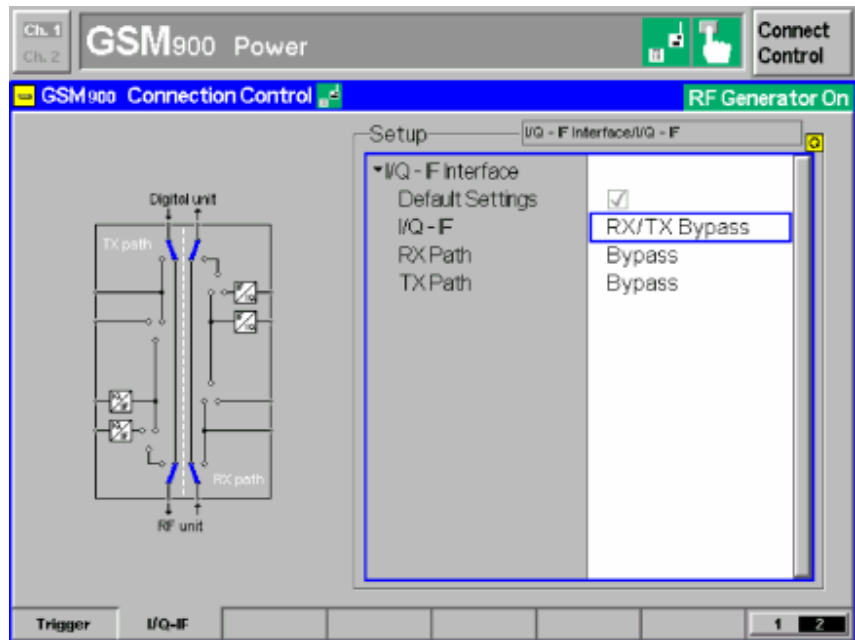
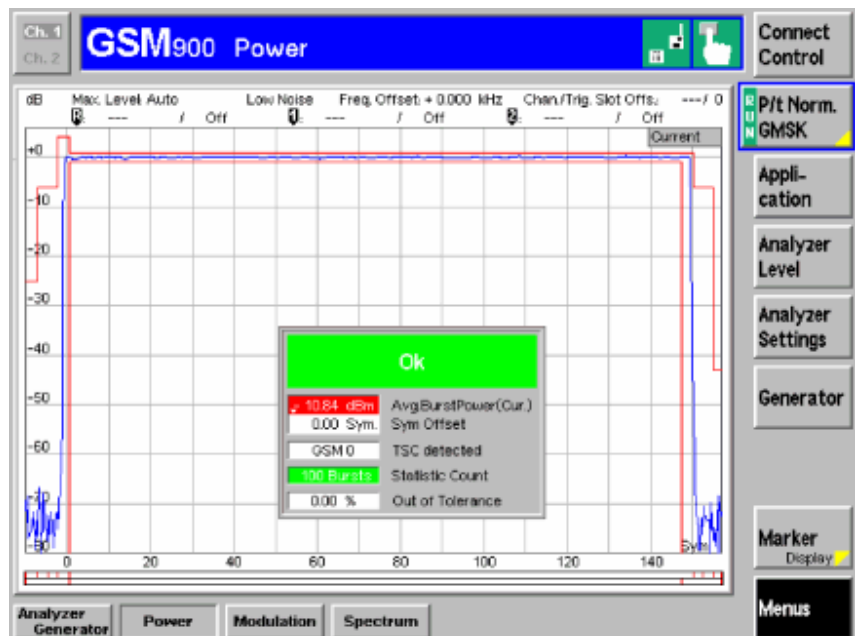
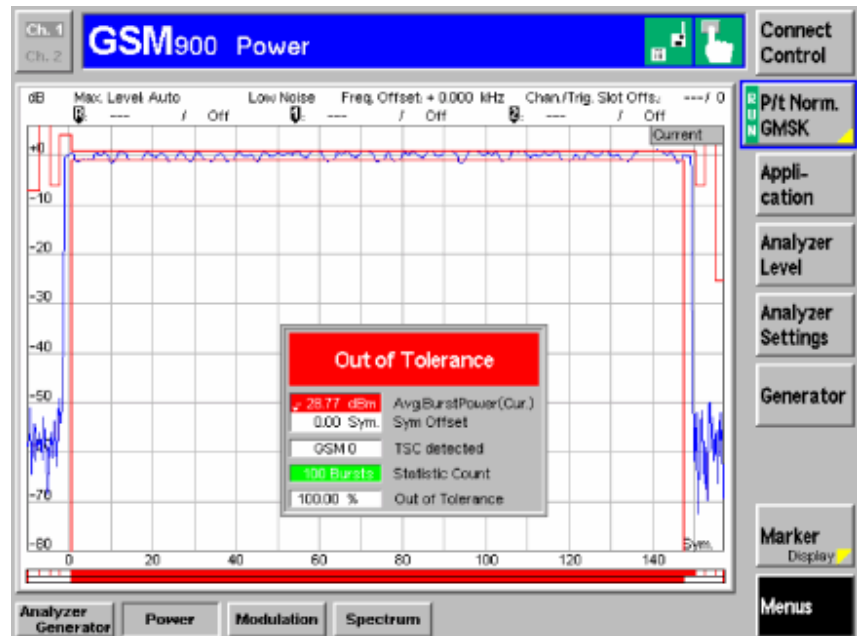

Fig. 8 IQ/IF Bypass Configuration
Fig. 9 Burst Power in Bypass Mode
Fig. 11 Burst Power with Calibration Mode Standard Fading
4. Set the IQ/IF board to Bypass mode (Fig.8) in order to obtain the reference Average Burst Power **PREF** (Fig.9).
6. The resulting Average Burst Power  $P_{MEAS}$  (Fig. 11) must be subtracted from the reference power  $P_{REF}$  (Fig. 9) to obtain the hardware attenuation of the IQ path.